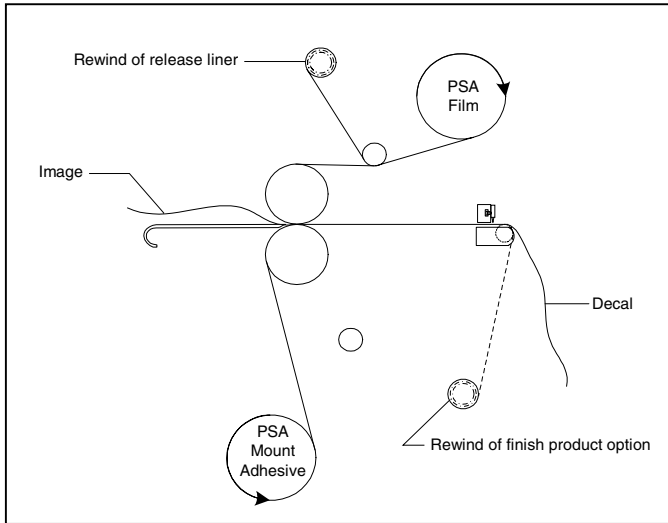

Fig. 32
TIPS FOR CREATING A DECAL (Figure 32)
1. Load the laminator as illustrated in Figure 32.